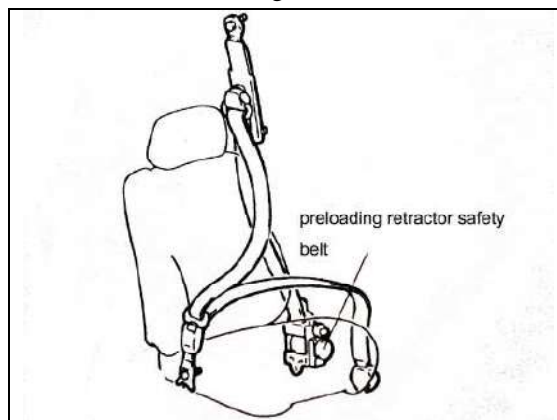

Fig 19-3
27、28	Floor wiring harness (LH) →Front passenger's preloading retractor installation (see fig19-3)